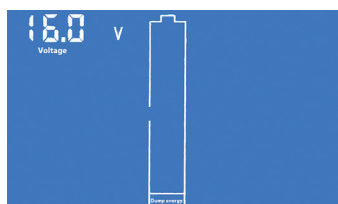

Figure 5: Cut-off voltage setting interface (low bit)
**Step 1:** After you set the full voltage, you will need to press the button longer until LCD shows the interface of Fig. 5, then release the button;